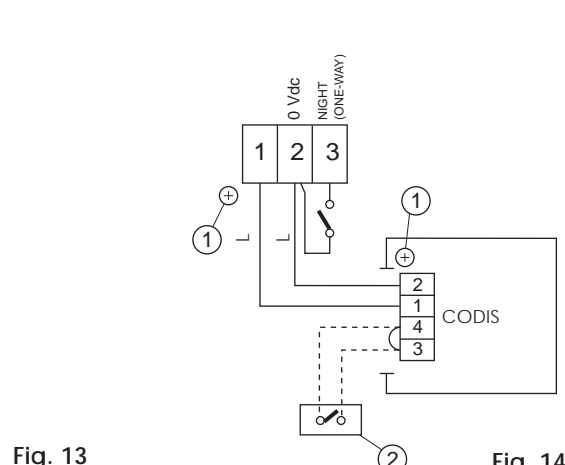
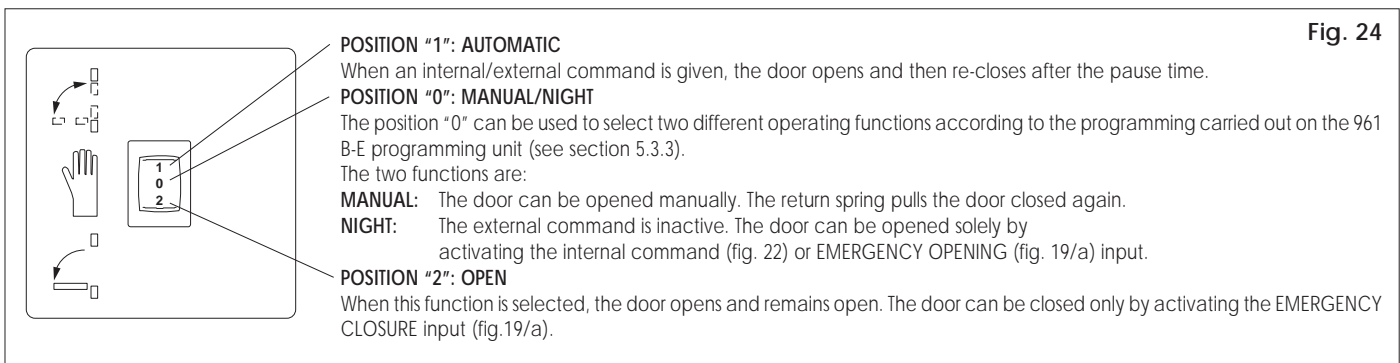

Fig. 13
Fig. 24
- 1. - 2. - 3. Connection of function switch (fig. 1 - ref. 12) as shown in fig. 13.
- ⑥ **Programming unit connector (2 pole)**
- ⑦ **Programming unit connector (14 pole)**
The 961 B-E operator has a 3-position function switch (0-1-2) mounted on one of the end covers (fig. 1 - ref. 12). This cover can be fitted on the right or the left as required (fig. 8). The switch electrical connection is shown in fig. 13. The selectable operating functions are shown in fig. 24.